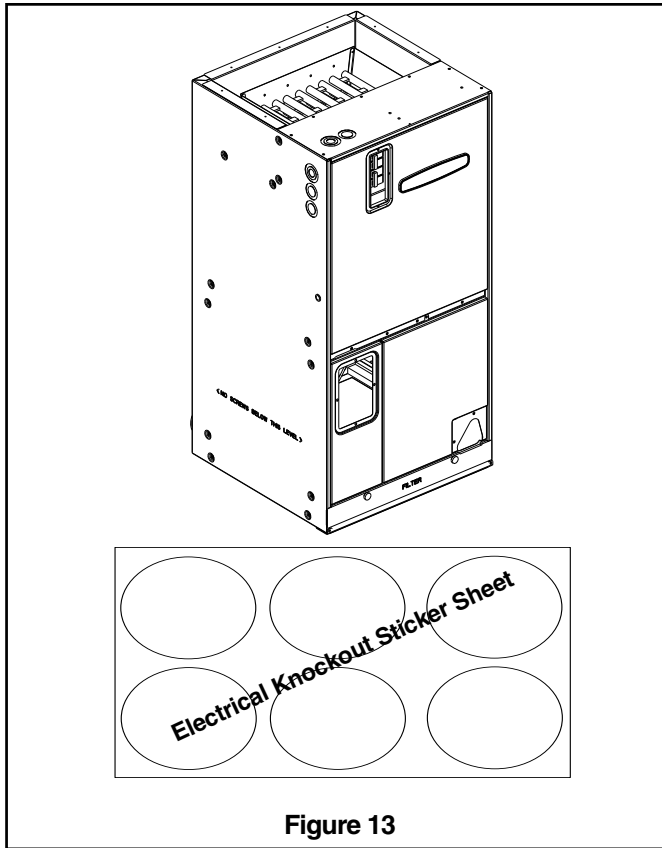

Figure 13
- f. **Openings where field wiring enters the cabinet must be completely sealed.** Location of power entry is shown on the Outline Drawing. Use 2.5" clear stickers provided to seal all unused electrical knockouts. See Figure 13.
- c. Openings where field wiring enters the cabinet must be completely sealed. Location of power entry is shown in the outline drawing. Use 2.5" clear stickers provided to seal all unused electrical knockouts. See Figure 13.
- j. **Openings where field wiring enters the cabinet must be completely sealed.** Location of power entry is shown on the outline drawing. Use 2.5" clear stickers provided to seal all unused electrical knockouts. See Figure 13.
- i. **Openings where field wiring enters the cabinet must be completely sealed.** Location of power entry is shown on the outline drawing. Use 2.5" clear stickers provided to seal all unused electrical knockouts. See Figure 13.